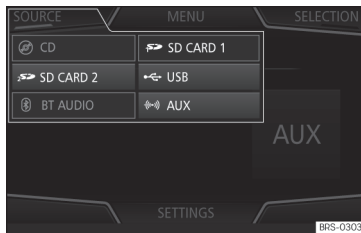

Fig. 193 MEDIA mode: change media source.
- OR:** From the *Media* main menu, press the **SOURCE** function button **>>> Fig. 193** and select the desired media source.